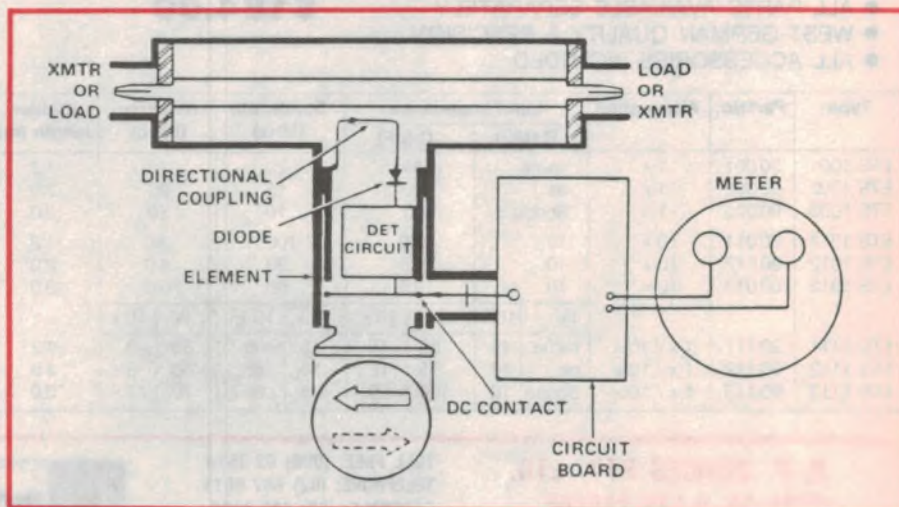

Fig.1: The model 4304A's basic sensing and measuring system.
Like the model 43, the new meter is a directional wattmeter. That is, it measures the RF power flowing in either direction along a short section of transmission line, which is connected in series with the line under test. And it does this by using Bird's tried and proven 'Thru-line' technique, which involves a very short coupling line mounted in a precision sensing insert (see Fig.1). This is rotated through 180°
Our FT sensors have 610 (EIA version, see Fig.1) or 604 (CCIR version)
Fig.1: The basic operation of Philips' frame-transfer (FT) CCD image sensors. This is the EIA version; the CCIR version provides 604 columns and 288 lines/field.